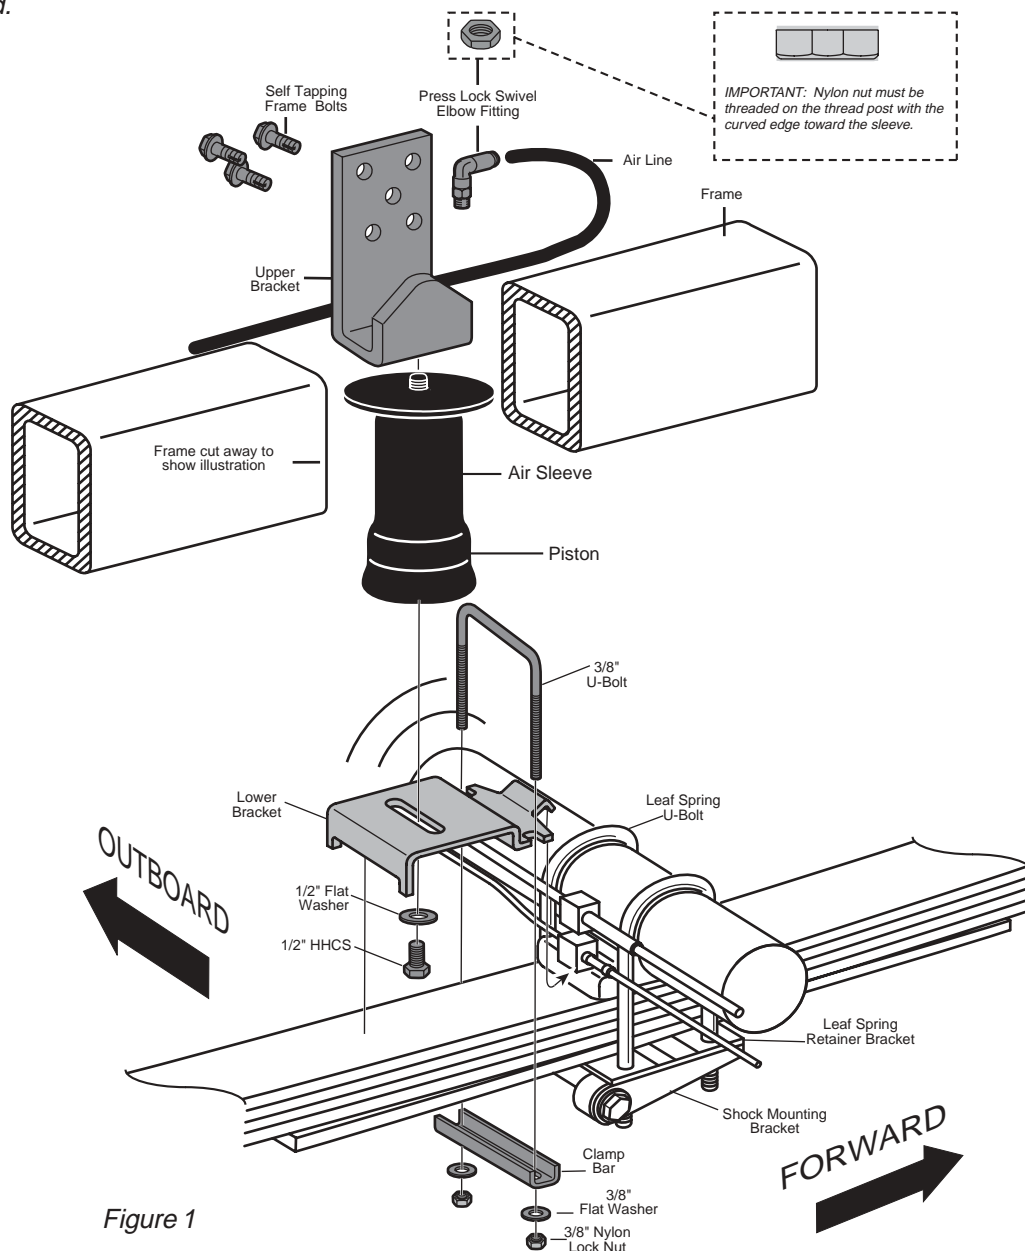
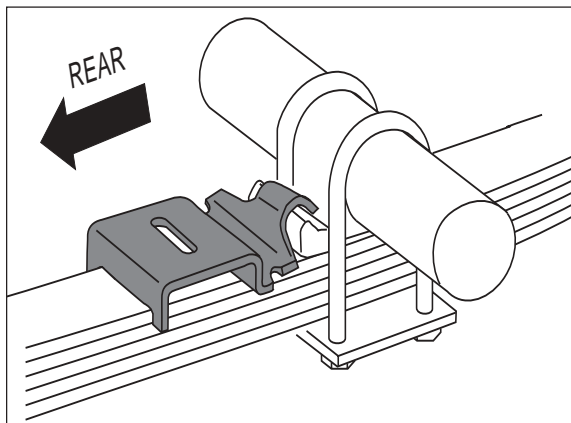
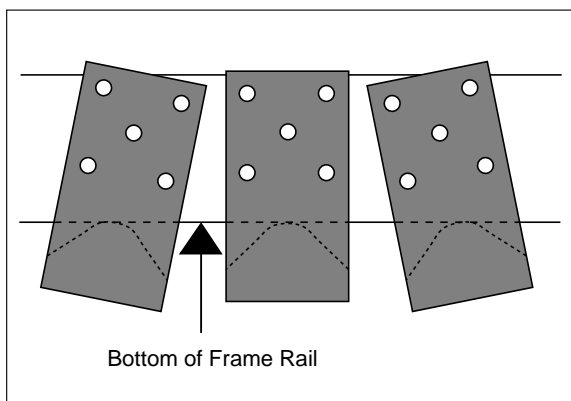
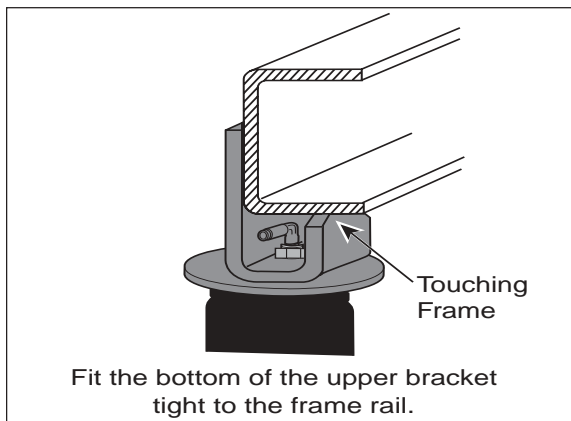

Figure 1
Figure 3
Figure 4
Figure 5
2. Thread the attached air fitting through the bottom of the J-bracket. Position the elbow towards the front or rear of vehicle depending on which direction will allow easier access for the air line (Figures 1 and 2). Slide the provided nylon nut over the air fitting and onto the threaded post. Tighten the nylon nut hand tight to secure the bracket (Figure 1).
3. **LOOSELY** attach the lower brackets to the bottom of the sleeve using the provided $\frac{1}{2}$ " flat washer and the $\frac{1}{2}$ " bolt as shown in Figure 1.
1. Set the assembly on the leaf spring behind the axle. Install the lower bracket as shown in Figures 1 and 3 over the edge of the upper spring retainer plate (Figure 3). Tighten nuts to 16 ft.lbs.
2. The upper bracket must be parallel and perpendicular to the lower bracket. The upper bracket is designed so that it can be "tilted" for the proper angle (Figure 4). The bottom of the upper bracket must fit tight to the bottom of the frame rail (Figure 5). It is necessary to use at least three of the five pre-drilled mounting holes in the upper bracket. Any combination of three is permissible. Using the bracket as a template, center punch and drill three $\frac{5}{16}$ " holes. The holes must be no larger than $\frac{5}{16}$ ". Attach the upper bracket using the Self-Tapping Frame Bolts. Tighten securely to 15 ft.lbs. (Figure 1). **DO NOT OVERTIGHTEN.**
5. Route air line along frame from inflation valve location to the air fitting (Figures 1). Attach air line to chassis with the provided plastic straps.
If the vehicle's headlights are shining into the trees or the vehicle is leaning to one side, then it is not level (fig. 1). Raise the air pressure to correct either of these problems and level the vehicle.
Stability translates into safety and should be the priority, meaning the driver may need to sacrifice a perfectly level and comfortable ride. Stability issues include roll control, bounce, dive during braking and sponginess (fig. 3). Tuning out these problems usually requires an increase in pressure.